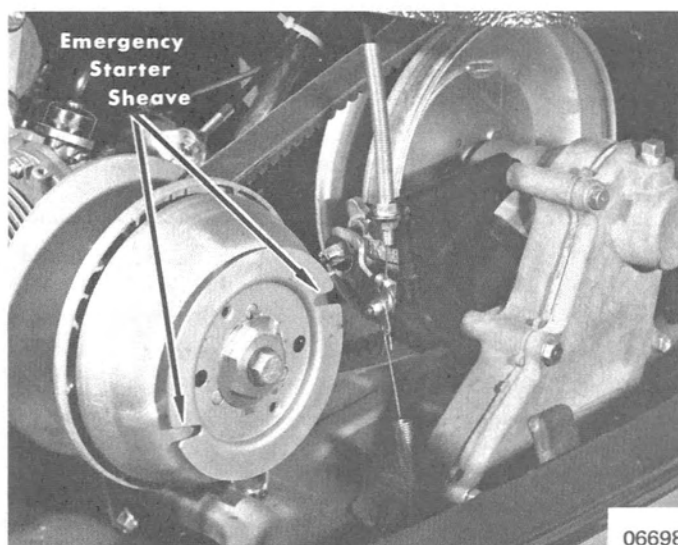

Figure 9. Emergency Starter Sheave
2. Remove emergency starter rope from tool packet. Wind rope around drive sheave in forward direction (counter-clockwise). (Figure 9)